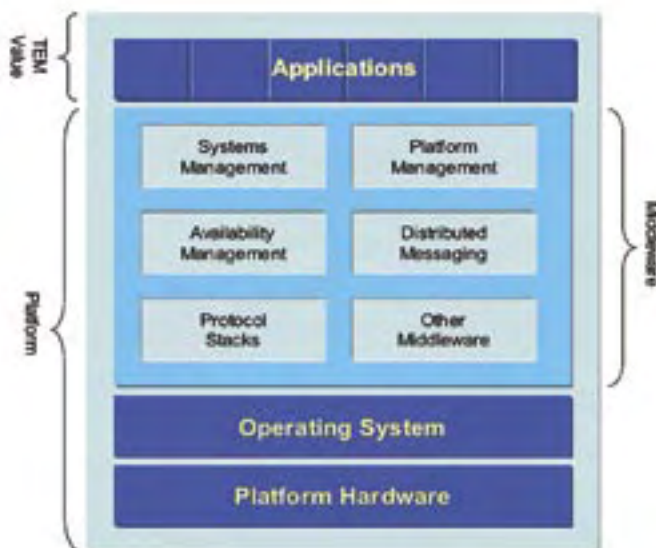

Figure 1
view of a platform consists of the following four layers shown in Figure 1:
- Standardization: Several new and emerging standards allow designers to build systems by combining a set of interoperable COTS building blocks from a variety of competing vendors. Numerous industry consortia are addressing the standards associated with the layers shown in Figure 1.